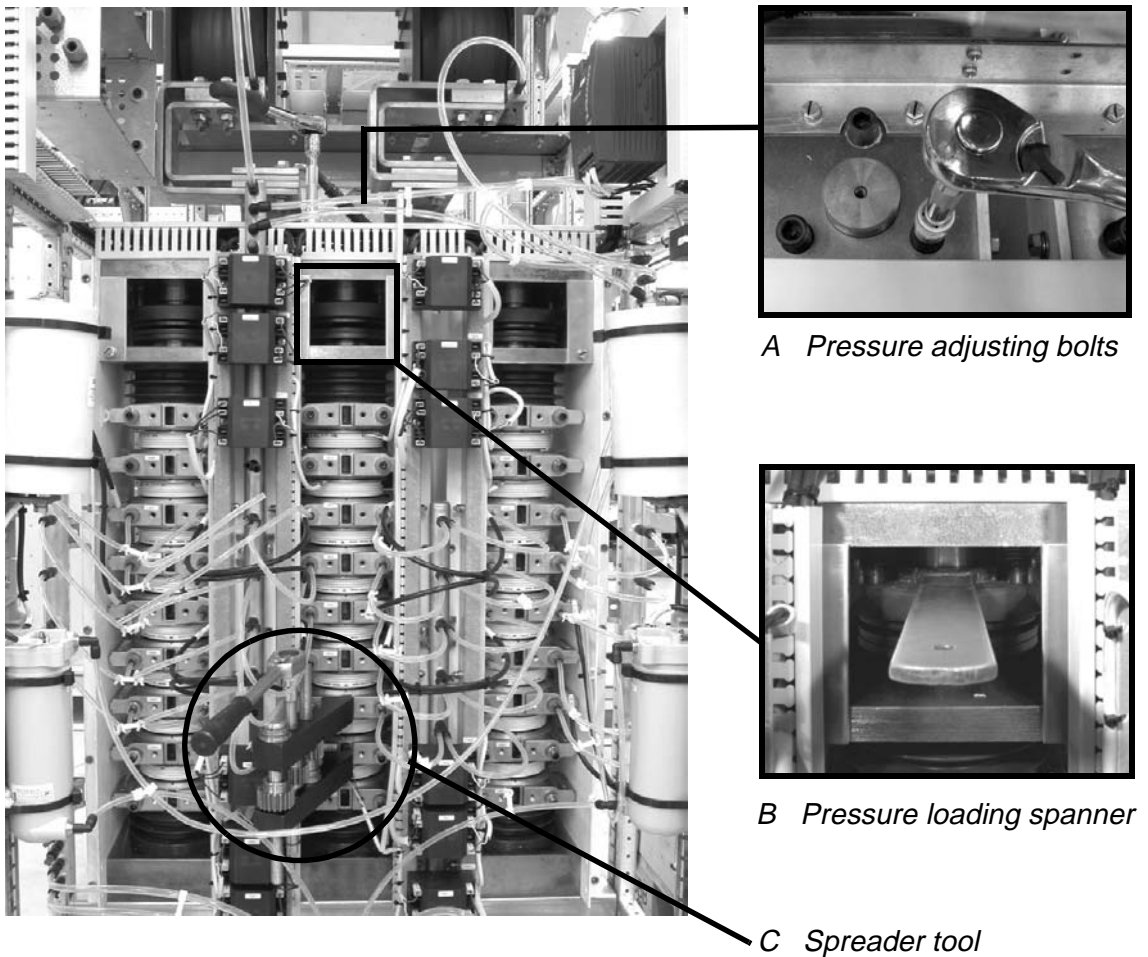

Figure 3-2 LSU Rectifier
- 2 Insert the clamp pressure loading spanner (see B in *Figure 3-2*).
- 3 Insert the spreader tool into the openings of the coolers above and below the diode or thyristor which is to be replaced (see *Figure 3-2*).